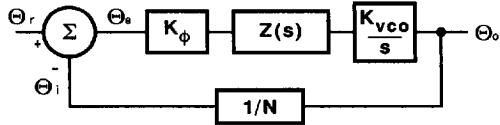
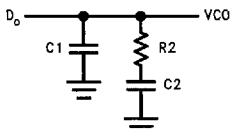

FIGURE 2. PLL Linear Model
FIGURE 3. Passive Loop Filter
A linear control system model of the phase feedback for a PLL in the locked state is shown in *Figure 2*. The open loop gain is the product of the phase comparator gain (K_ϕ), the VCO gain (K_{VCO}/s), and the loop filter gain $Z(s)$ divided by the gain of the feedback counter modulus (N). The passive loop filter configuration used is displayed in *Figure 3*, while the complex impedance of the filter is given in equation 2.